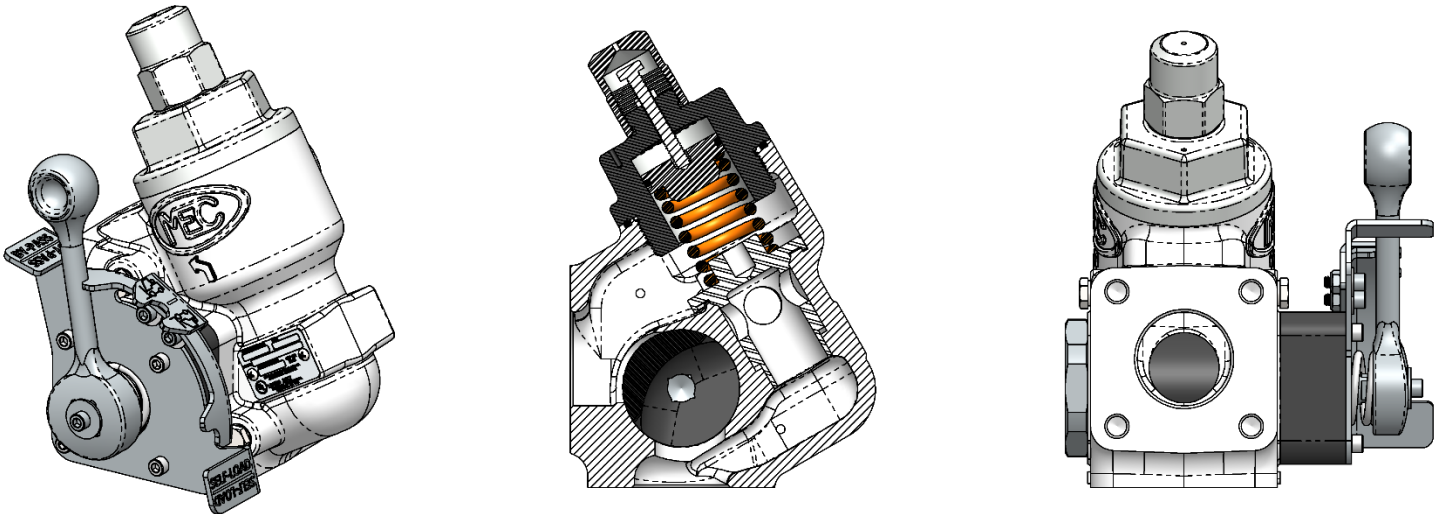

Figure 5: By-Pass Mode, Right hand configuration shown
- Check to confirm that the flow control valve is completely closed when the mode selector handle is in “By-Pass” mode (Figure 5)
The By-Pass mode allows full flow back to the tank when differential pressure exceeds the set pressure, just like a standard bypass valve. This works to protect your pump and reduce the need for expensive repairs. In By-Pass mode, the integral flow control valve is closed so that pump output is directed to the delivery hose, maximizing transfer efficiency. To select By-Pass mode, move the mode selector lever to “BY-PASS” (Figure 5).